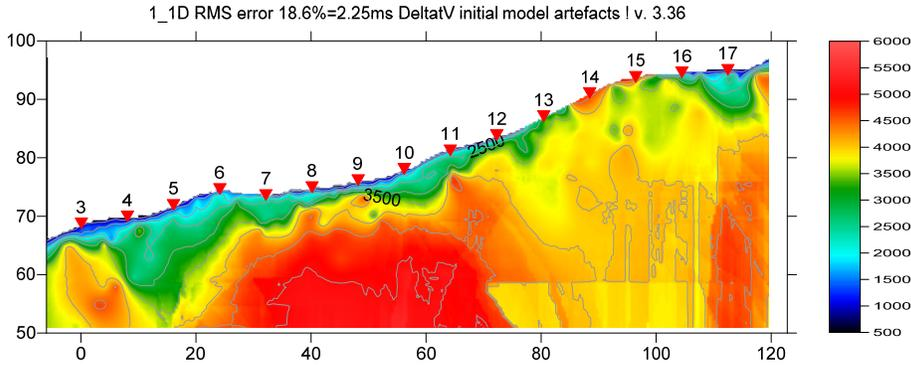

Fig. 8 : *DeltatV*/Interactive *DeltatV* output. See Fig. 12&13&14 for *DeltatV* Settings & parameters and XTV parameters.
- wait for the *DeltaV+XTV inversion* to complete to obtain Fig. 8